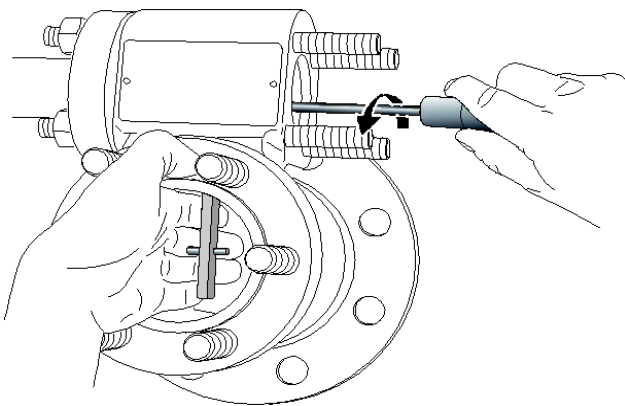

Figure 22
### 9.3. Removal of 12400 Case and Torque Tube Sub-Assembly (See Figures 22 & 23)
To remove the displacer, the torque arm must be removed. When the two arm screws (133) are loosened, hold the torque arm so as not to damage the torque tube (Figure 22).
- c. Remove the upper flange (146) and blind flange (144).
- d. Lower the torque arm (135) and unhook the displacer (130). A hook-shaped 3 mm steel wire facilitates unhooking and holding of the displacer. The wire may be inserted through the clevis hole.
- e. Remove the two torque arm screws (133) and remove the torque arm (135) from the chamber.
- f. Remove the displacer from its chamber (131) or tank.
- g. Be sure that requirements for instruments installed in explosive areas are strictly followed. Remove screw (106) from connection compartment and unscrew cover (104). Disconnect supply electrical wires and other equipment from terminals (90).
- h. Remove nuts (142) holding the torque tube subassembly and slide the subassembly out of the mechanism chamber.
For installation, reverse the procedure outlined for removing a DLT case and torque tube sub-assembly (section 9.3). It is recommended that new gaskets (143 -149) be used when installation is performed (see figure 22).